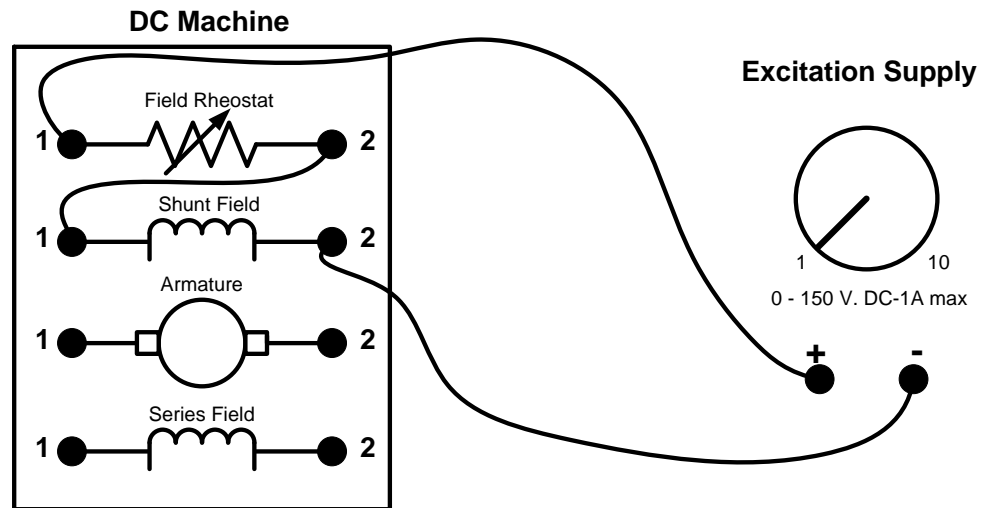

Figure 2
- Using the blue wire connect the Field Rheostat and the Shunt Field in series (Figure 2).
- Using the yellow wires connect the excitation supply to the “Field Windings” (Figure 2).